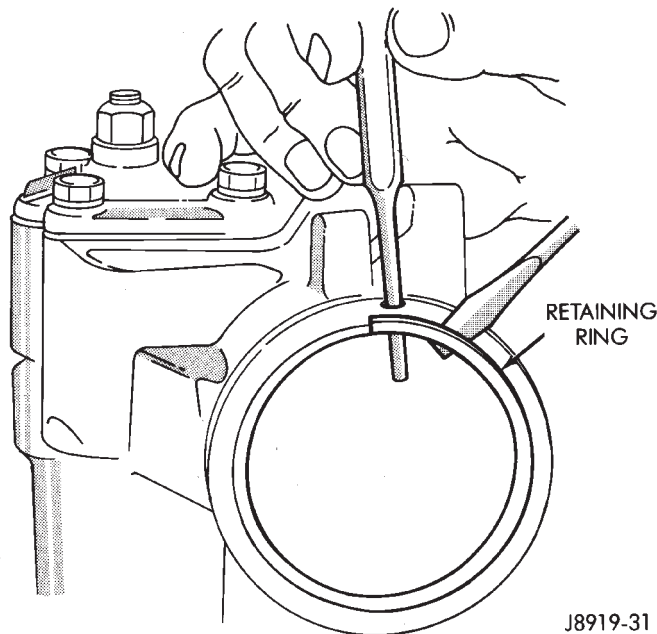

Fig. 3 End Plug Retaining Ring
- (1) Unseat and remove retaining ring from groove with a punch through the hole in the end of the housing (Fig. 3).